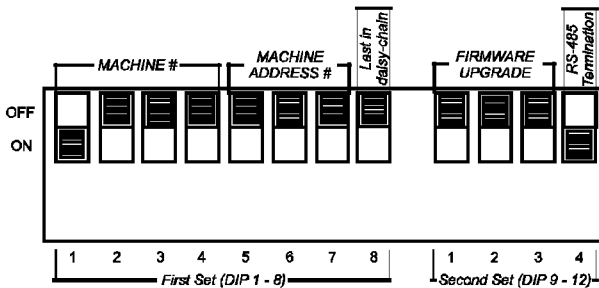

Figure 6: SETUP DIP-switches (Factory Default for Stand-Alone MACHINE # 1)
Configure the **VS-81SP** by setting the 12 SETUP DIP-switches (item 7 on the rear panel), as Figure 6 and Table 2 define: